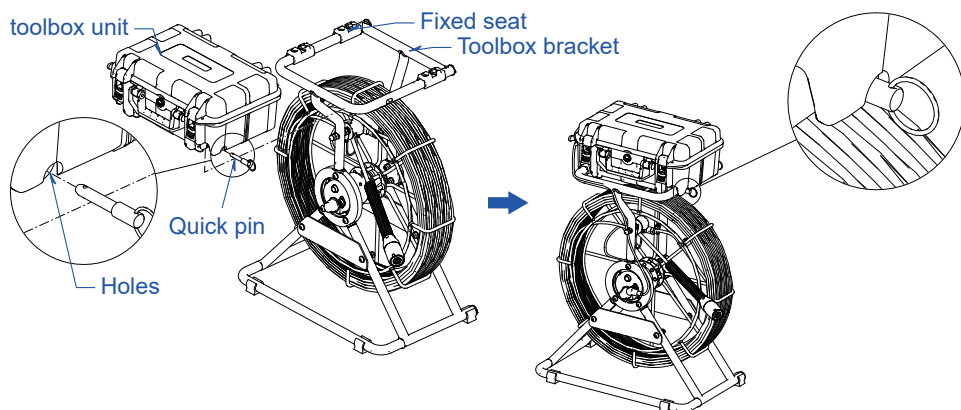

Figure 17.Install toolbox unit
3. If you choosed the toolbox unit, please install the toolbox unit (Figure 17)